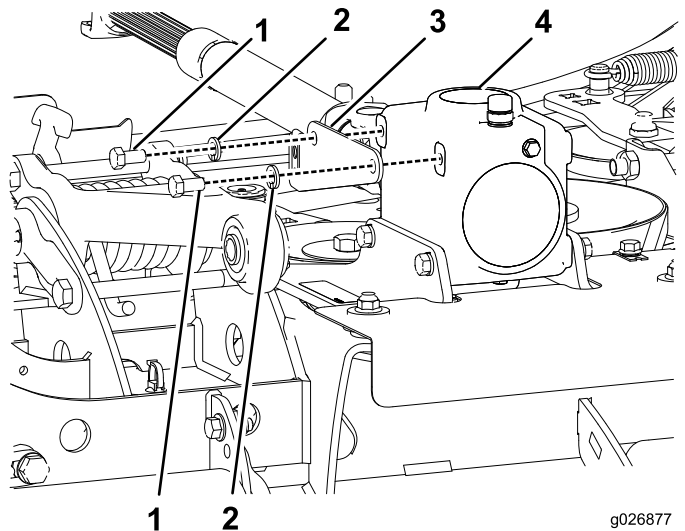

Figure 8
2. Install the pivot bracket onto the gear box (Figure 8).